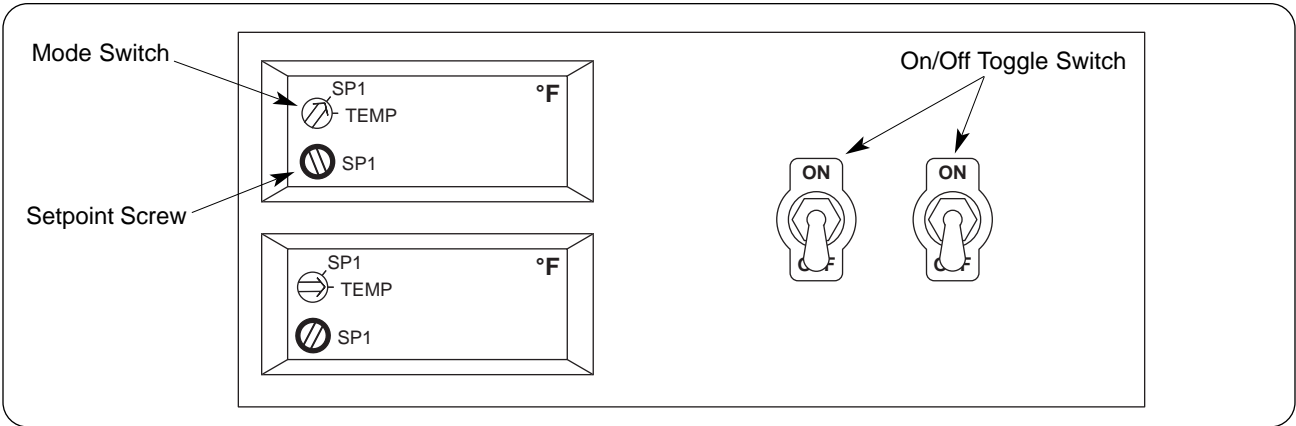

Figure 6. Control Panel
2. Turn the two toggle switches on the control panel to the ON position. (See Figure 6.)